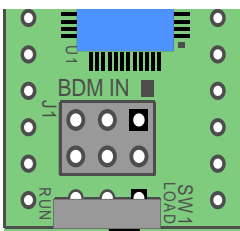
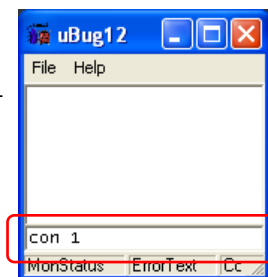

Figure 8 - Switch to Load Mode
Figure 9 - Command Window
1.42 *Establishing a Serial Port Connection.* Once you have launched uBug12, place the NanoCore12MAX switch in the **LOAD** position (see Figure 8) and reset your NanoCore12MAX. Then click inside the command window of uBug12 (see Figure 9) and type the command *con 1* in order to establish communication between uBug12 and the NanoCore12MAX module. If you're using a com port other than 1, substitute the correct number (eg. type *con 3* if you are using com port 3). A **CONNECTED** message will appear in the uBug12 display window showing that the connection was successful.